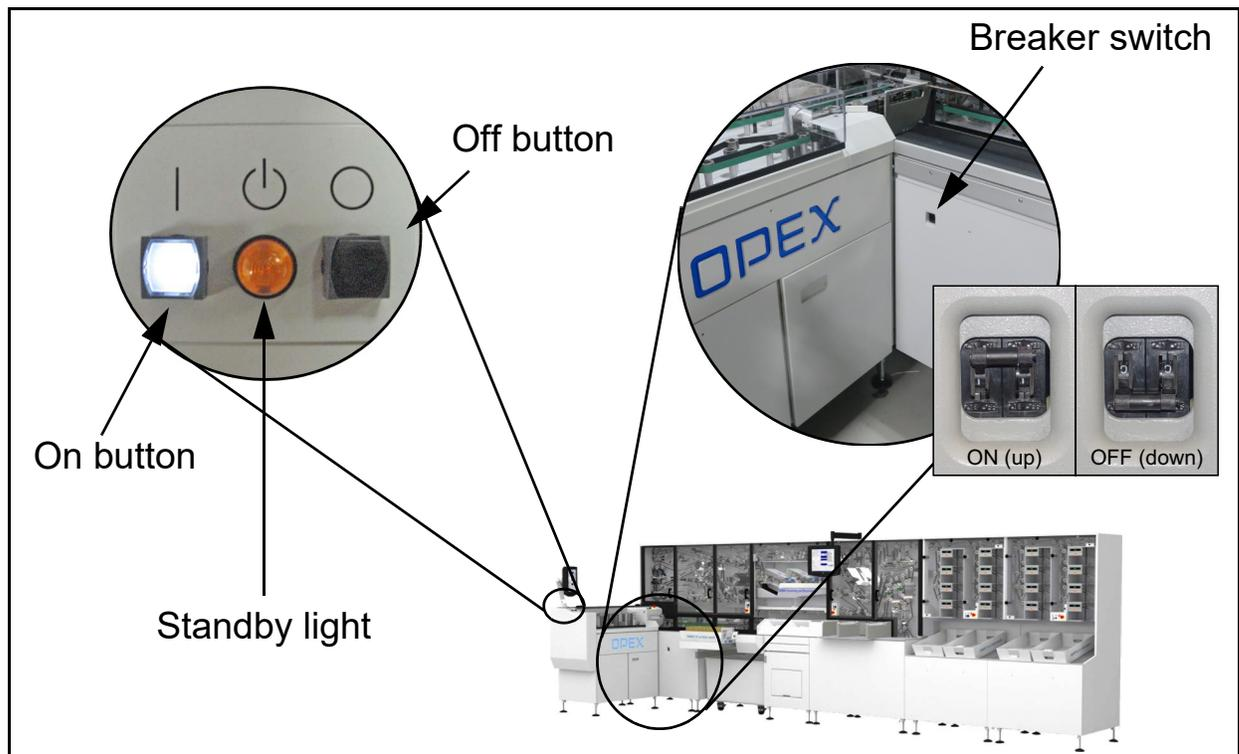

Figure 3-1: On/Off button locations
1. Turn the breaker switch (Figure 3-1) to the On position. The standby light will begin to blink.
1. Press the black Off button (see Figure 3-1). The standby light will blink.